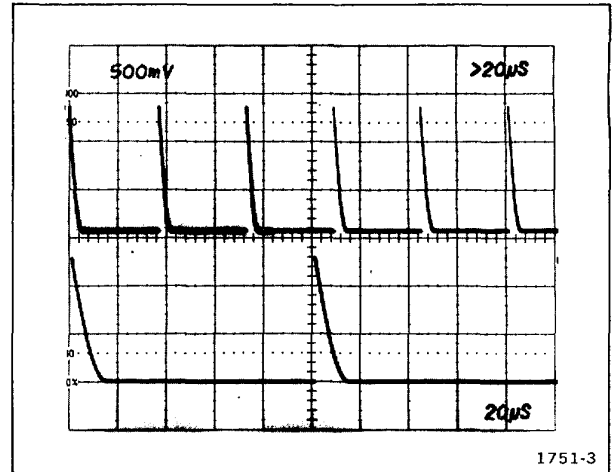

Fig. 5-14. Variable Time/Division Range
i. Check with VARIABLE control released and turned fully counterclockwise, at least two Delayed sweep markers (bottom) to one Delaying sweep marker is visible. Refer to Fig. 5-14.